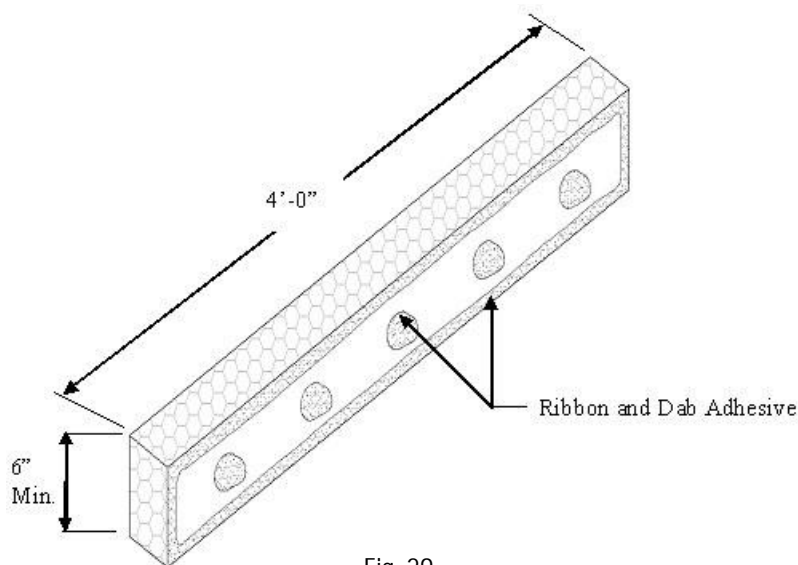

Fig. 29
- viii. Tops of walls, sills of continuous windows and other horizontal system terminations are terminated using 6 in or 12 in x 48 in (152 mm or 305 mm x 1.2 m) Closure Blocks. These are adhered to Backstop NTX using a ribbon and dab adhesive pattern as shown in the Figure 29.